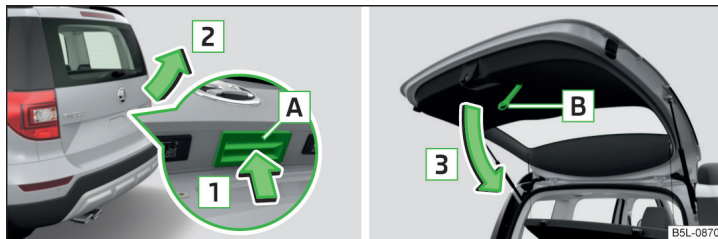

Fig. 36 Opening / closing tailgate
- To **open** the lid, press-- --> Fig. 36 button A in the direction of arrow 1.
Button A » Fig. 36 is disabled when starting off or driving at a speed of over 5 km/h. The button is reactivated when the vehicle has stopped and a door is opened.